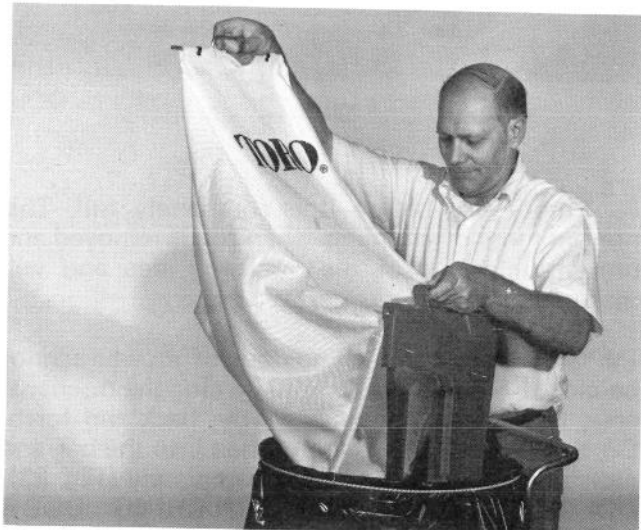

Figure 24
9. To dump grass out of bag, release hold on front bag handle and lift up rear of bag. Weight of clippings will force bag door open and allow clippings to dump out. If dumping into trash bag, insert front of bag into trash bag and lift up on rear of bag (Fig. 24).